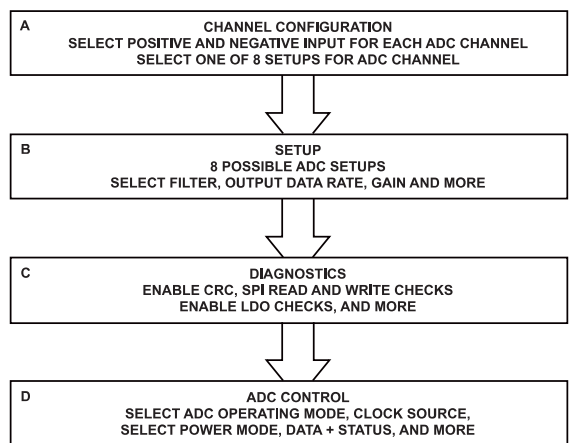

Figure 69. Suggested ADC Configuration Flow
Figure 69 shows an overview of the suggested flow for changing the ADC configuration, divided into the following three blocks:
- ▶ Channel configuration (see Box A in Figure 69)
- ▶ Setup (see Box B in Figure 69)
- ▶ Diagnostics (see Box C in Figure 69)
- ▶ ADC control (see Box D in Figure 69)